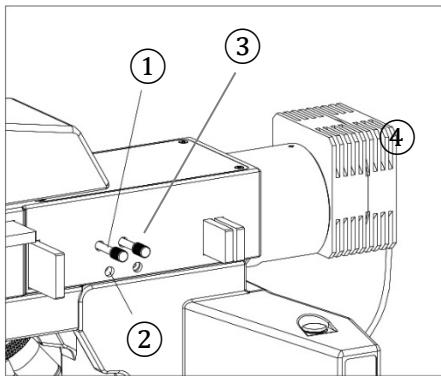

Fig. 19
**Adjusting the Aperture Diaphragm (Fig. 19 & 21)